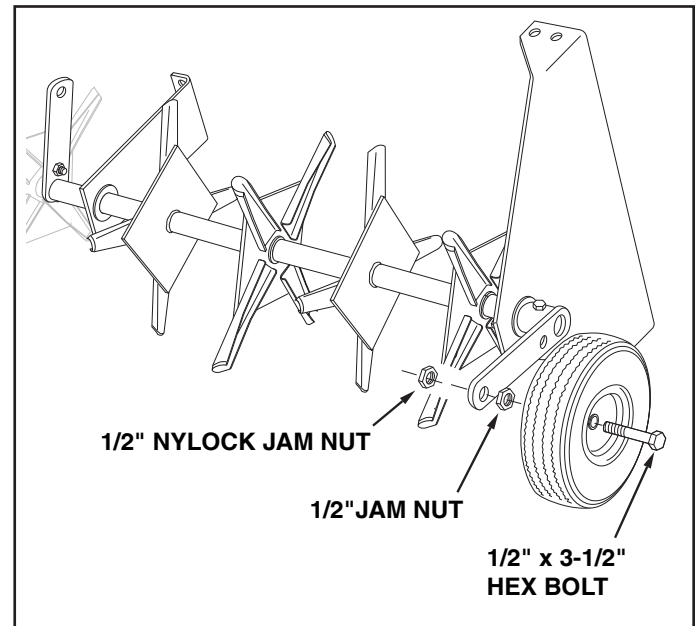

FIGURE 6
8. Assemble a wheel to a wheel bracket using a 1/2" x 3-1/2" hex bolt, a 1/2" jam nut and a 1/2" nylock jam nut. Adjust the nuts so that the wheel is held securely but will spin freely. Repeat on other side. See figure 6.